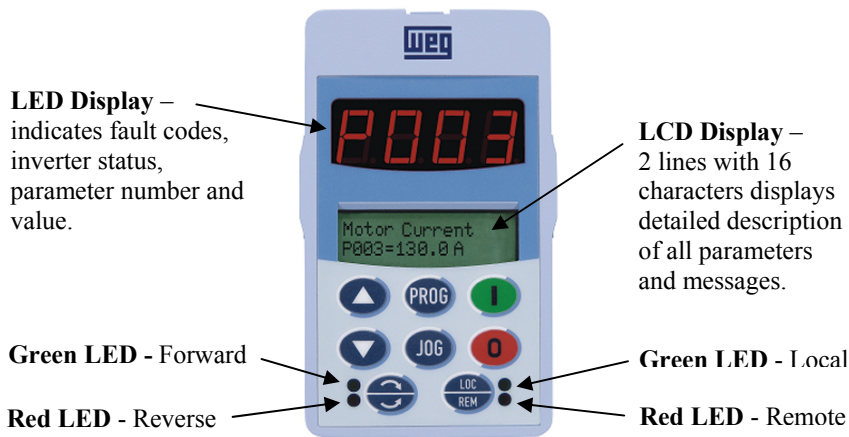

Figure 2 – Keypad Operation
9. Press the  FWD / REV key to change directions. The green and red LEDs on the left side of the keypad indicate rotation direction (Fig. 2)
In the previous section the inverter was operated from the keypad (Local Mode). Note the green local indicator LED on the bottom right of the keypad (Fig.2). For the factory default programming, the selection of the operation mode (Local/Remote) is made via the “Local/Remote” key (default is Local). To pass default of the key to remote, set P220=3. With this setting the inverter will power up in remote mode. Note the red remote indicator LED on the bottom right of keypad (Fig. 2). If you wish to use an external Local/Remote switch (Hand-Off-Auto) set P220=4, connect the switch to one of the Digital Inputs (DI2-DI6), and set the corresponding parameter (P264 to 268=1). To always run in Local mode set P220=0. To always run in Remote mode set P220=1.